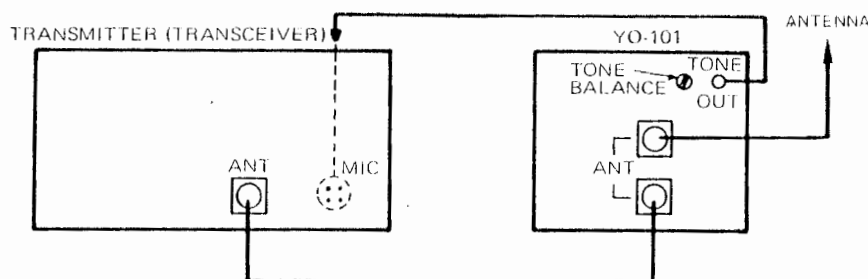

Figure 3
- (3) Push the POWER switch of the Monitorscope and adjust the controls as described in the initial adjustment procedure.
- (4) Turn on the transmitter and adjust the H. GAIN, SWEEP FREQ and SWEEP FINE controls for the desired pattern display.
- (5) The internal tone generator may be used for testing purposes with an SSB or AM transmitter/transceiver. Use the accessory cable to connect the TONE OUT jack to the FT-101 MIC jack. Then depress the appropriate button(s) for the tone(s) desired. Refer to Figure 3 for interconnection details.
- (6) Refer to the patterns on page 9 for evaluation of observed waveforms of transmitted signals.